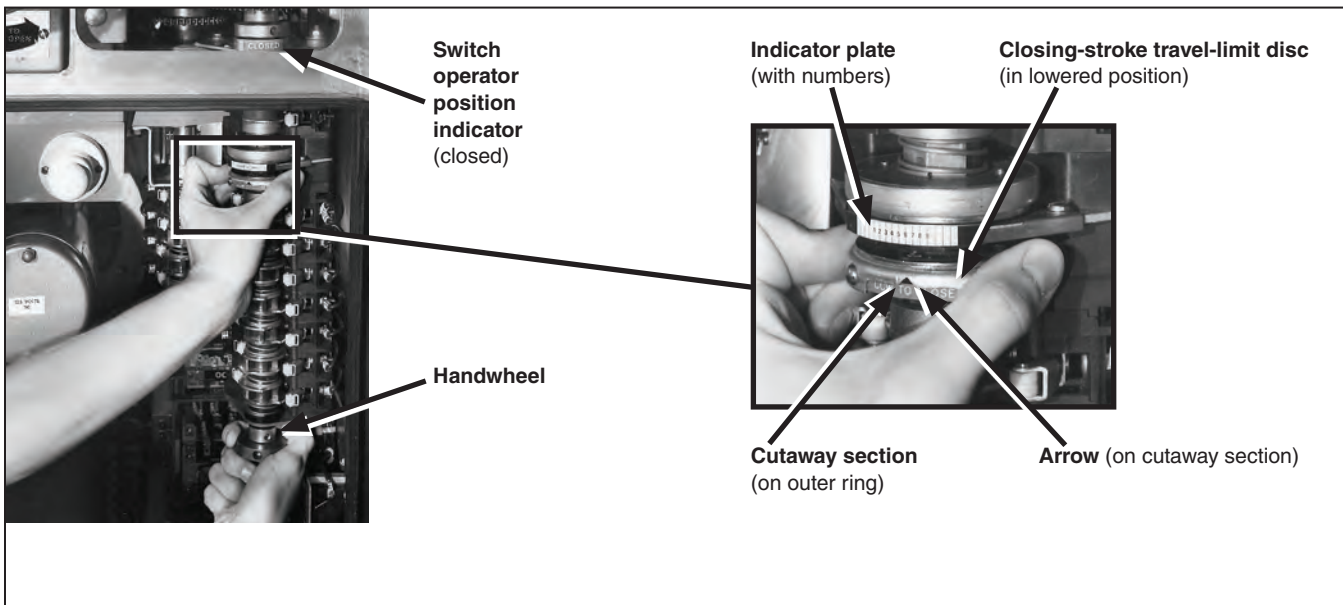

Figure 68. Adjustment of closing-stroke travel-limit disc.
- Grasp the handwheel and turn it to the extent possible in the direction opposite to the direction the output shaft rotates to close disconnect. See Figure 68.